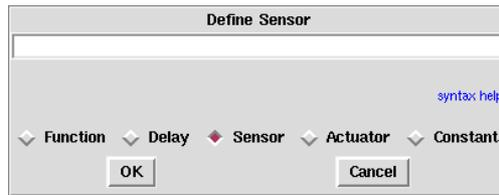

Figure 1.2: Define Sensor
- from the algorithm window, click on the + green button. It opens a dialog window, check **Sensor** (cf. figure 1.2). Type the sensor name and optionally a list of parameters for the sensor. For example type `input`, then